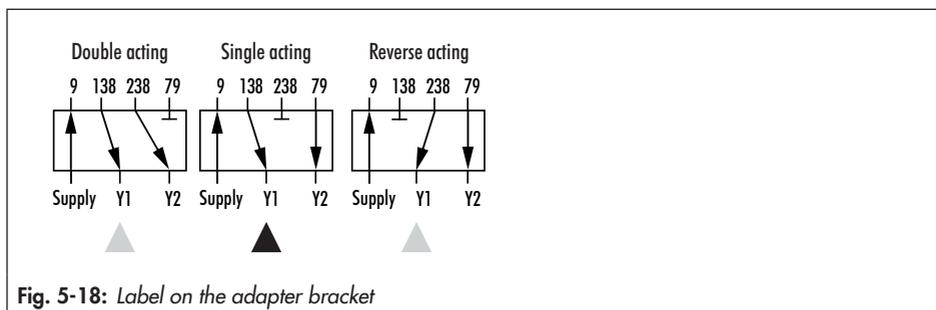

Fig. 5-18: Label on the adapter bracket
2. Unfasten the turnboard (7) from the adapter bracket (6).
3. Place the adapter bracket (6) on the positioner and mount using the screws (6.1). Make sure that the O-rings are correctly seated.
4. Place the turnboard (7) on the adapter bracket (6). Make sure that the O-rings are correctly seated.
5. Select the required switching function from Fig. 5-18 by turning the turnboard: an arrow on the turnboard points to the
corresponding switching function (see Fig. 5-18).
5. Select the required switching function from Fig. 5-23 by turning the turnboard: an arrow on the turnboard points to the corresponding switching function (see Fig. 5-18).
6. Take follower pin on the lever (M) out of its pin position and place in position 90°.